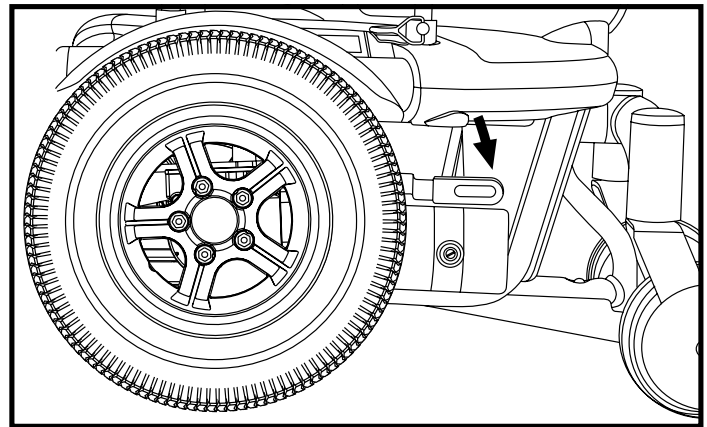

Figure 9. Freewheel Mode (Drive Disengaged)
3. Push down both manual freewheel levers to disengage the motors (freewheel mode). See figure 9.